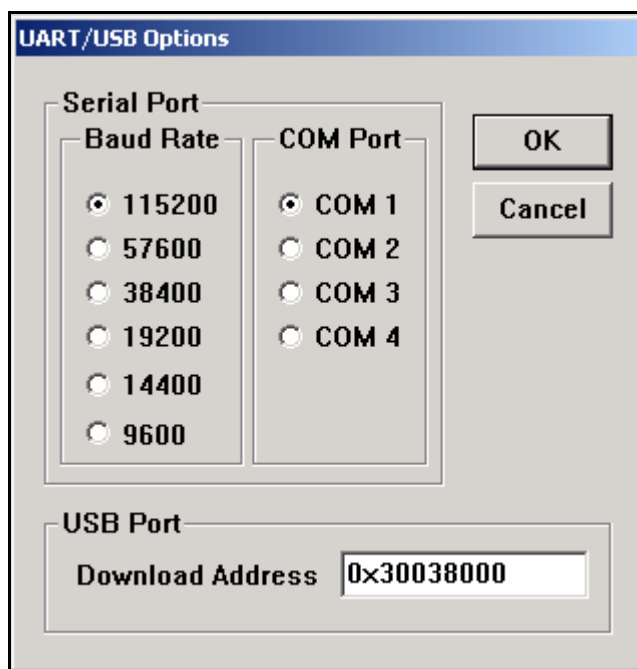

Figure 6-10 UART/USB Options
17. Now select 'Options' from 'Configuration' menu in the DNW application window to set the UART/USB options. The following window will appear on your screen. Select the Baud Rate and COM Port as shown in the figure 6-10, enter the download the address as '0x30038000' and then click the 'OK' button to continue.